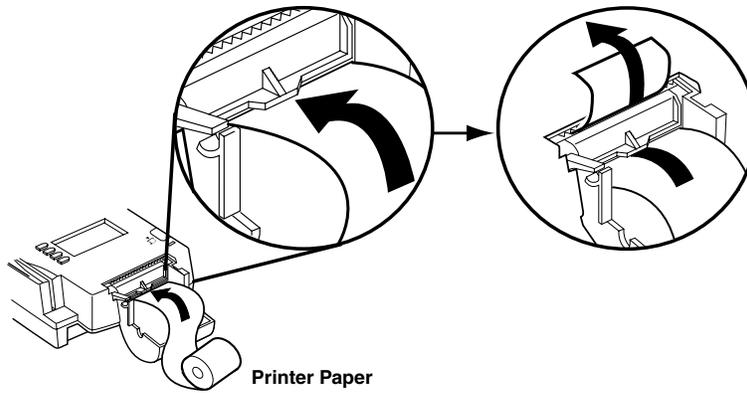

Figure 7 Loading Paper
4. Hold the roll so the paper feeds from the *bottom* of the roll, and insert the cut end into the paper feed slot (Figure 7, page 15).